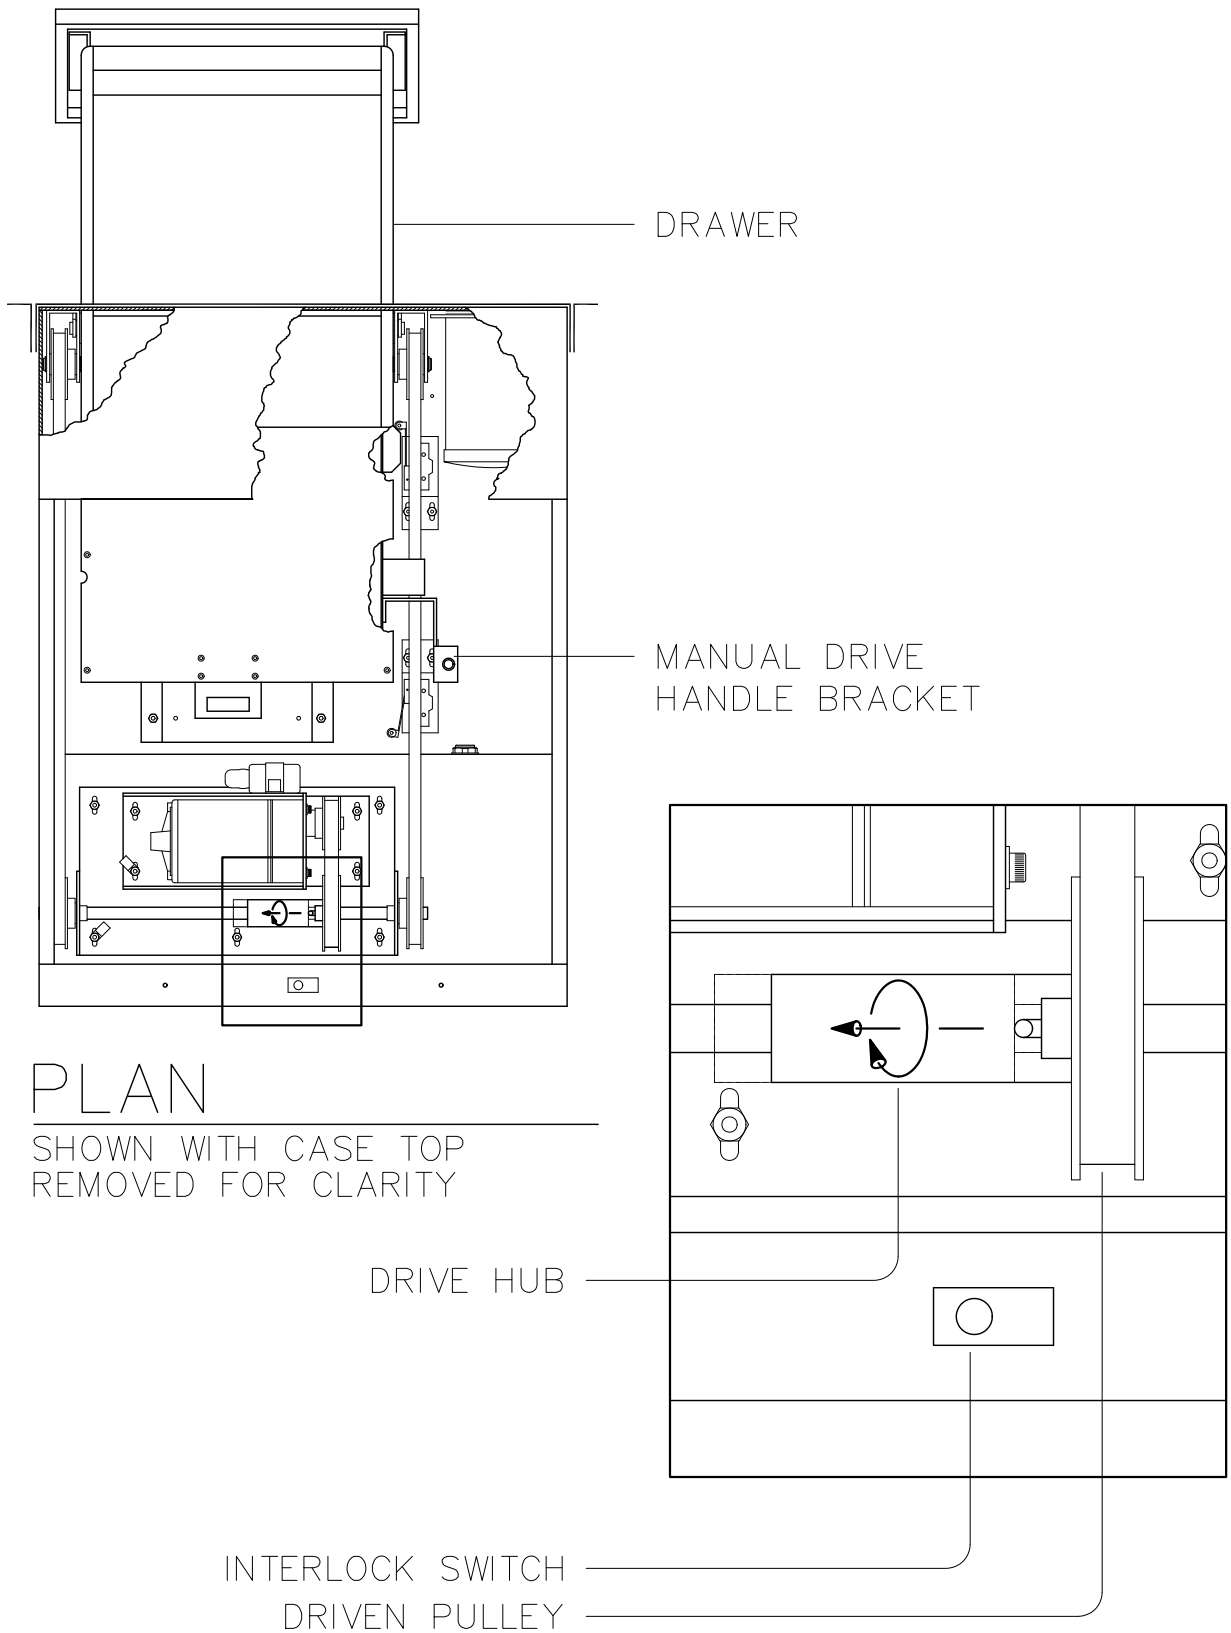

FIG. 3.1 MANUAL OPERATION
Hub is used to release driven pulley from transmission in order that drawer can be operated manually. Refer to Figure 3.1.
3.4 Manual Operation Sequence (Refer to Figure 3.1)
4. With drawer forward, disengage drive hub from driven pulley. To disengage, move drive hub to the left and rotate approximately ¼ turn. Refer to Figure 3.1.